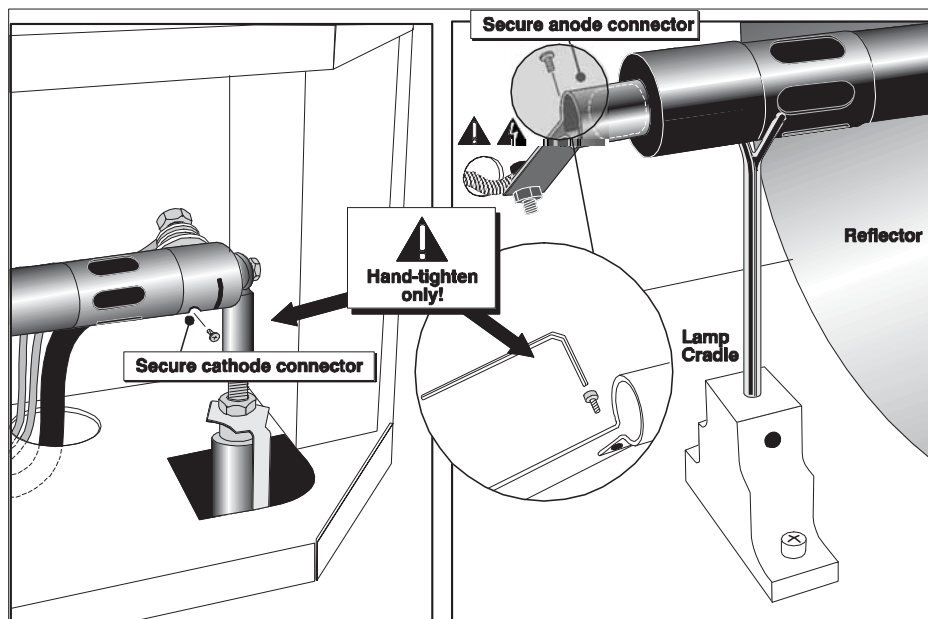

Figure 4-2 Secure Bulb at Cathode (-) and Anode (+) Connectors
Wearing protective clothing and face shield, unlock the lamp door and open it. Refer to Figure 4-2. If desired, release the tethered latch mechanism to remove the door entirely.
Unscrew the knob on the lamp cooling compartment door, and remove the door to reveal the cathode end (-) of the lamp. Refer to Figure 4-2.
- a. Loosen setscrews from negative/cathode (rear, 7/64") and positive/anode (front, 3/16") lamp connectors. These screws are shown in Figure 4-2. Make sure to apply minimal torque and DO NOT STRESS the quartz tube.
- c. Tighten setscrews in both negative and positive lamp connectors as shown in Figure 4-2.